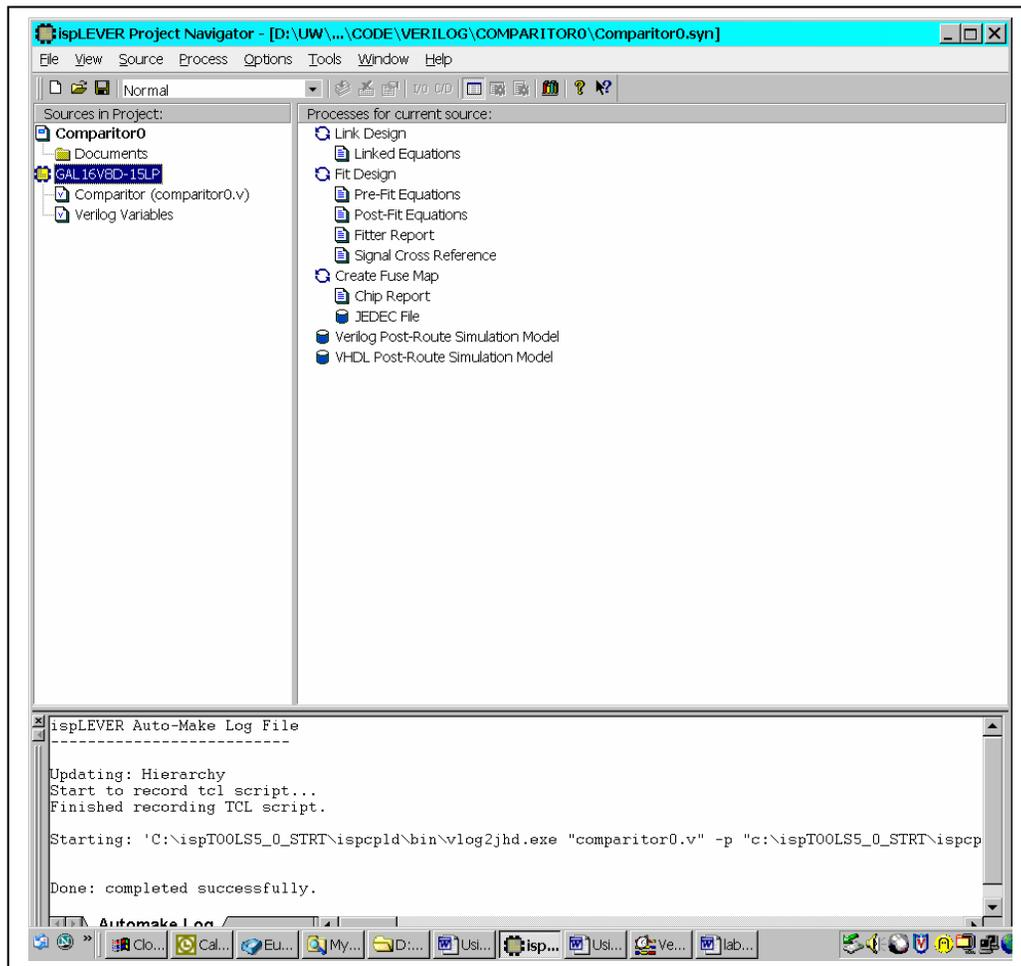

Figure 9.
12. The Project Wizard exits to the Project Navigator screen as in Figure 9.